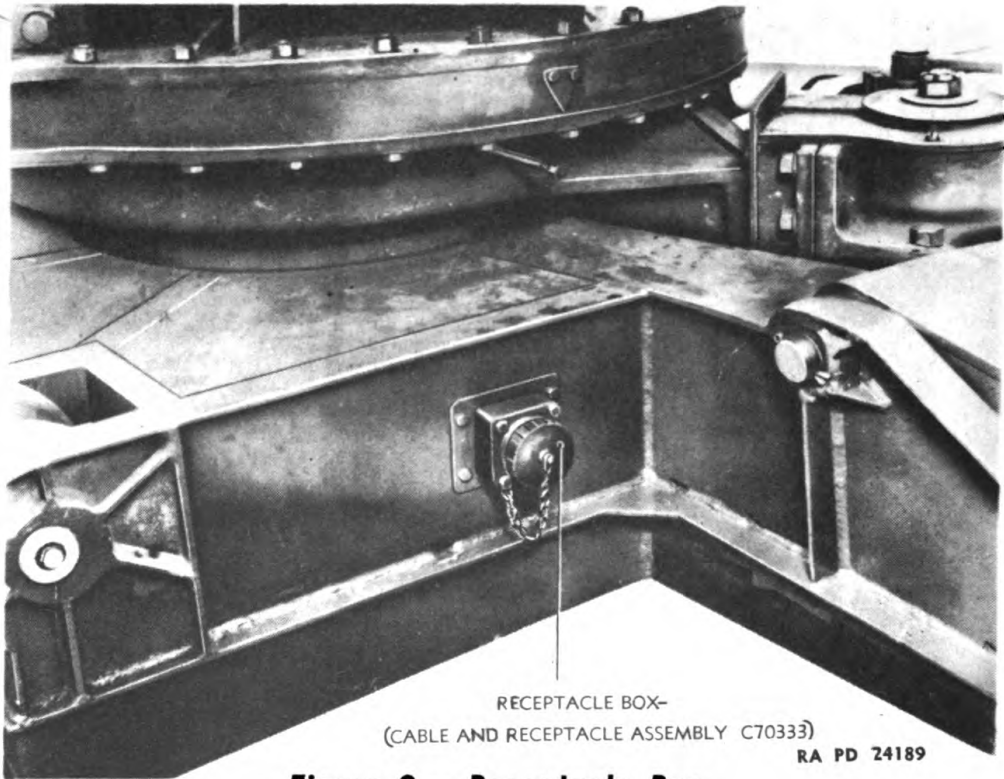
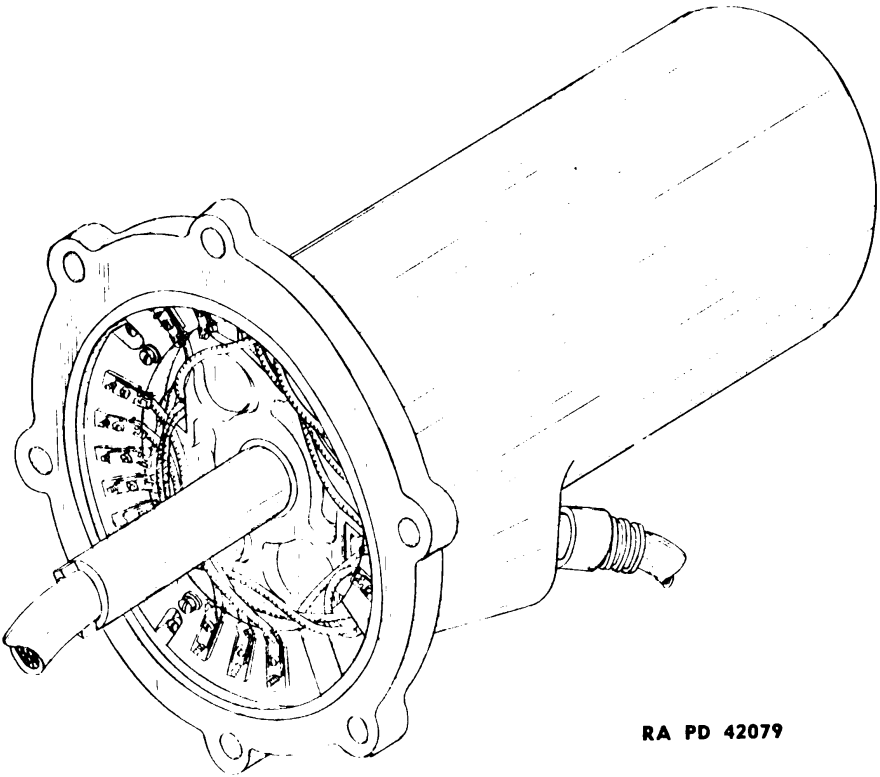
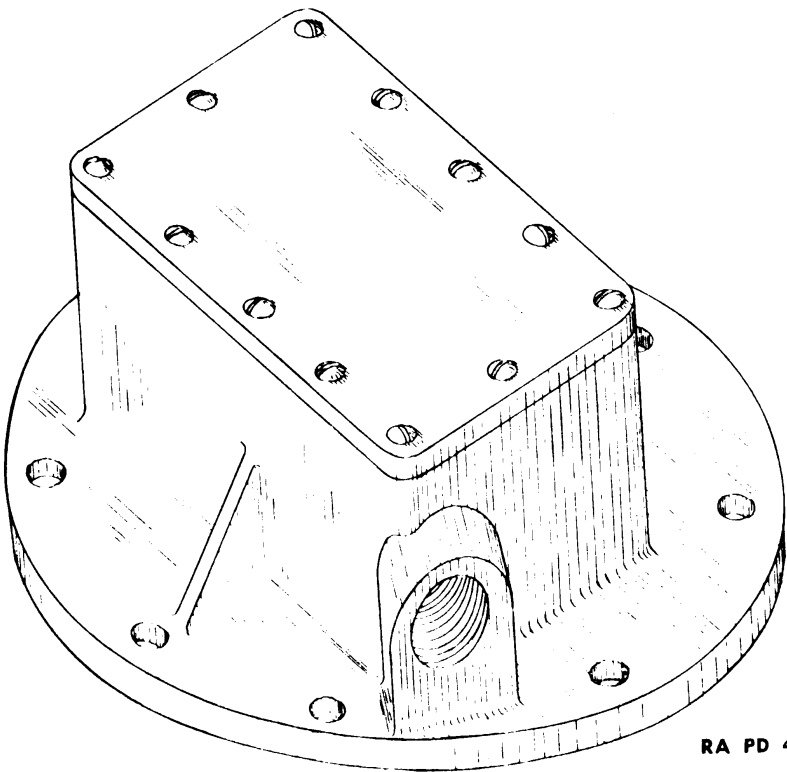

Figure 9 — Receptacle Box
Figure 10 — Contact Ring
Figure 11 — Terminal Box
c. Cable connections are brought in to the gun carriage through a receptacle box (fig. 9) which is part of the contact ring assembly and is located on the lower (stationary) part of the carriage. The cable then passes to the contact ring assembly, which provides a sliding connection to the terminal box on the upper (revolving) part of the carriage, preventing twisting of the cable as the gun is traversed. The contact ring (fig. 10) and terminal box (fig. 11) are located centrally in the base of the gun mount.
The receptacle box (fig. 9) for connection of the portable cable to the gun carriage is formed by the fixed end of the contact ring cable (fig. 22).
a. The contact ring (fig. 10) consists of a cylindrical housing, which contains a spindle and brush rigging assembly, and a terminal segment
a. The terminal box (fig. 11) mounts directly over the contact ring and centers over the contact ring spindle. The cable leading from the